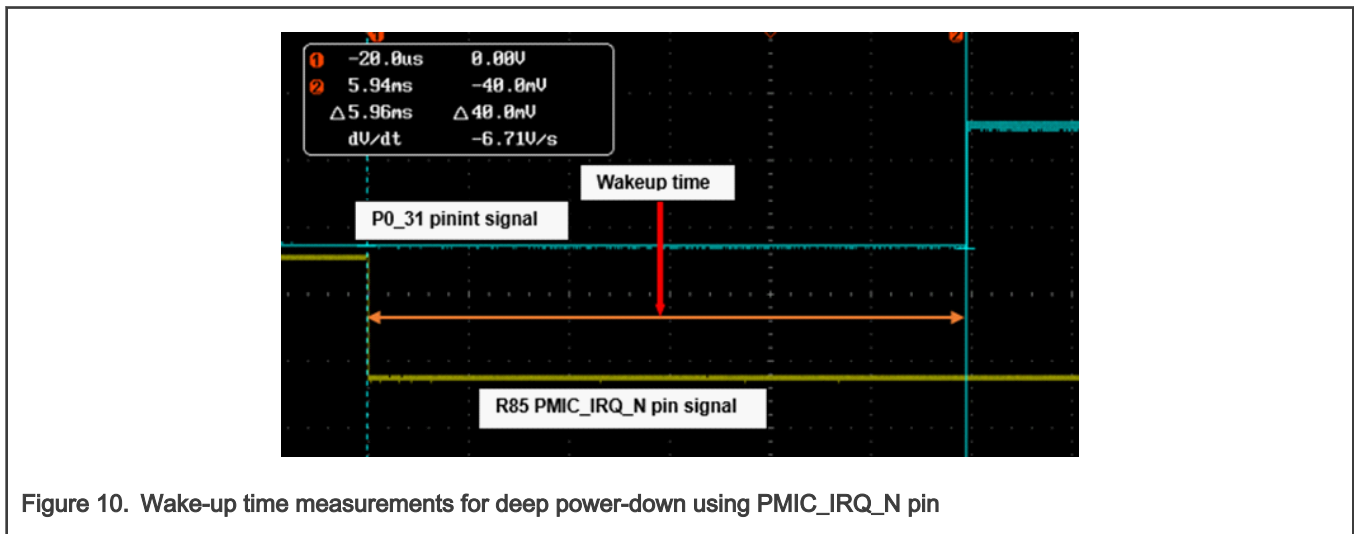
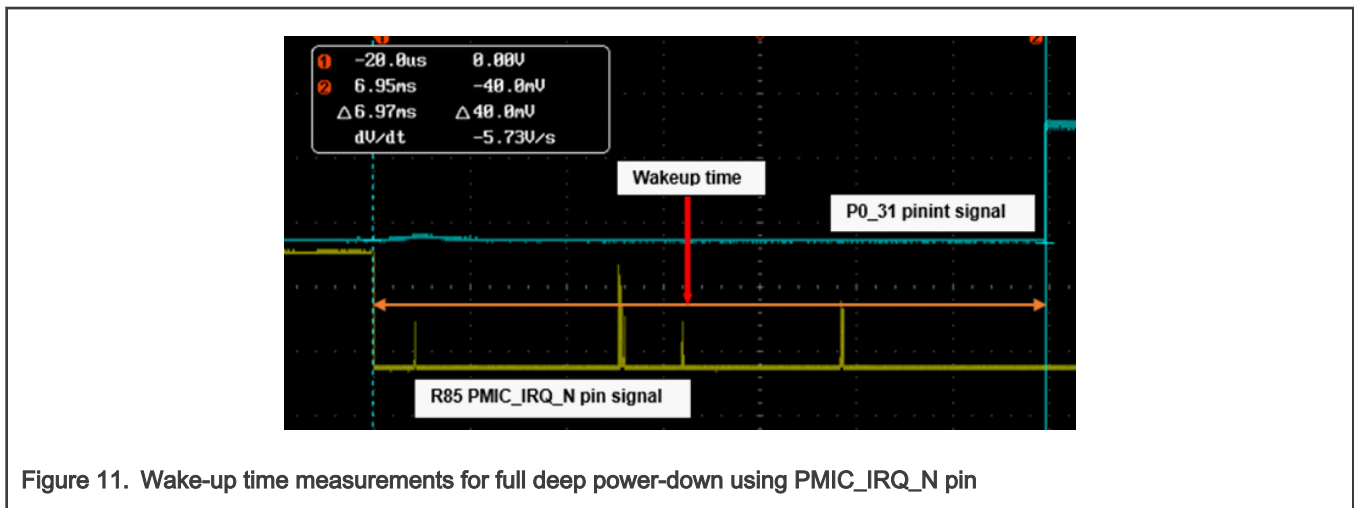

Figure 10. Wake-up time measurements for deep power-down using PMIC_IRQ_N pin
Figure 11. Wake-up time measurements for full deep power-down using PMIC_IRQ_N pin
- For wake-up time from deep power-down and full deep power-down modes, measure time passed on the oscilloscope between the PMIC_IRQ_N pin going low to P0_31 pin going high as shown in Figure 10 and Figure 11.